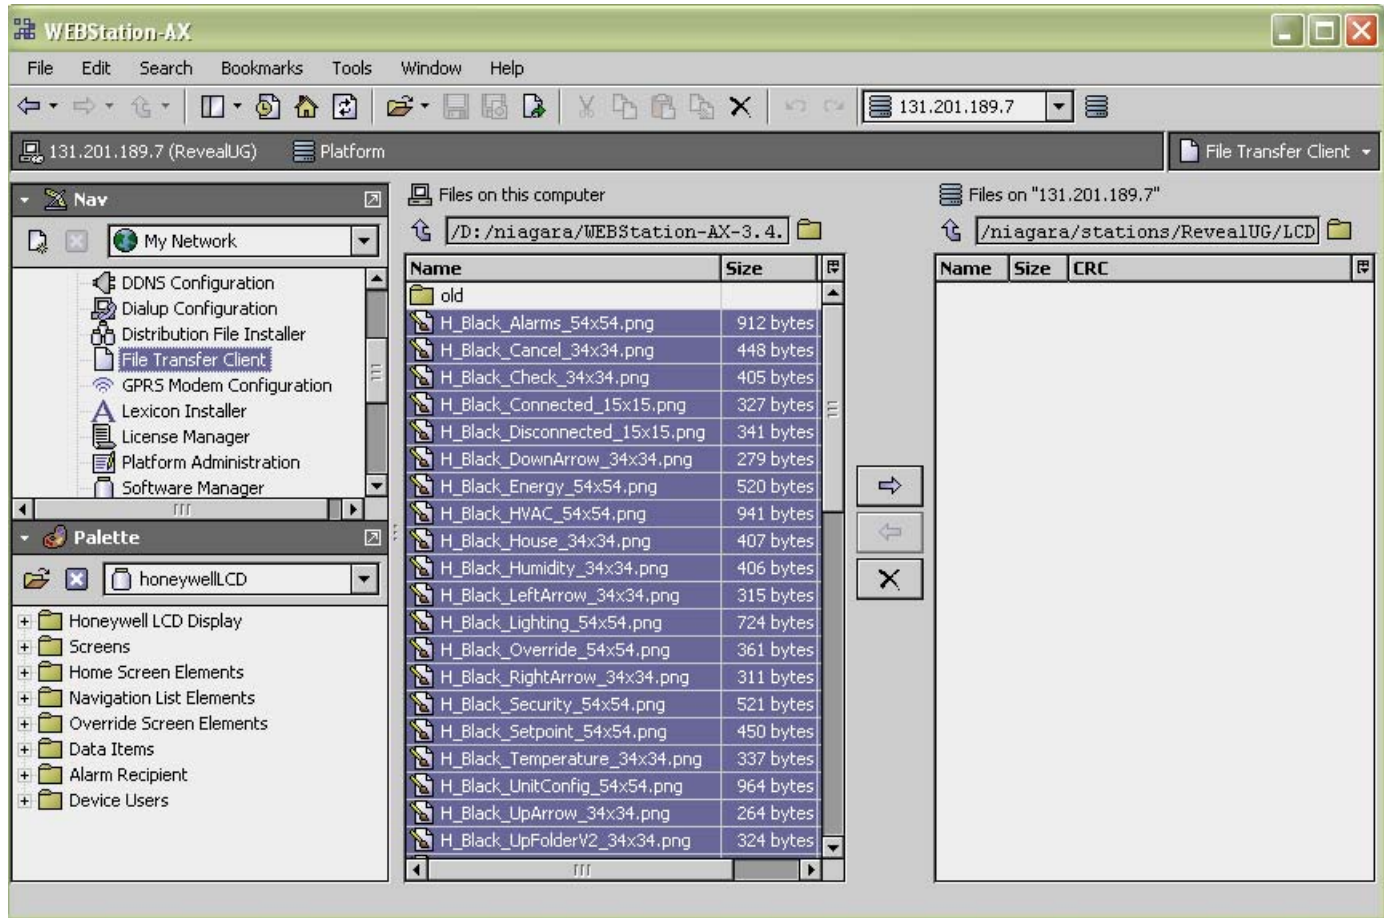

Fig. 9. Files selected on PC.
4. In the left-side pane, double-click on the Images folder (see Fig. 9). On the right-side pane, navigate to the station's /LCD/images folder.
5. Highlight the required files in the expanded Images folder. See Fig. 9.
6. Click on the transfer button (right arrow between the left and right panes) to initiate a file transfer. See Fig. 9.